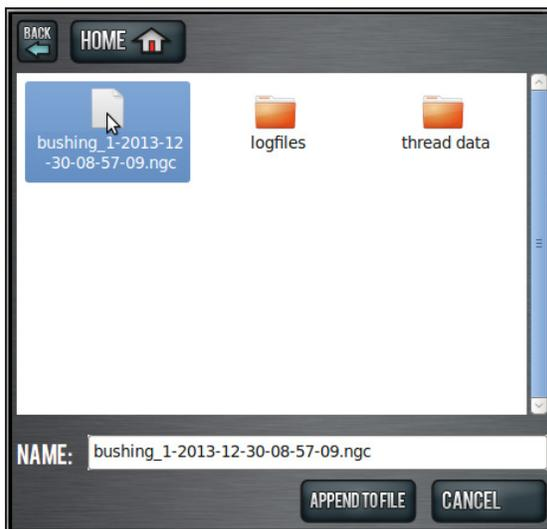

Figure 4.20
3. In the dialog window, select the file created when completing Operation 1 to add the OD Turn G-code and confirm *Append to File* (see **Figure 4.20**).